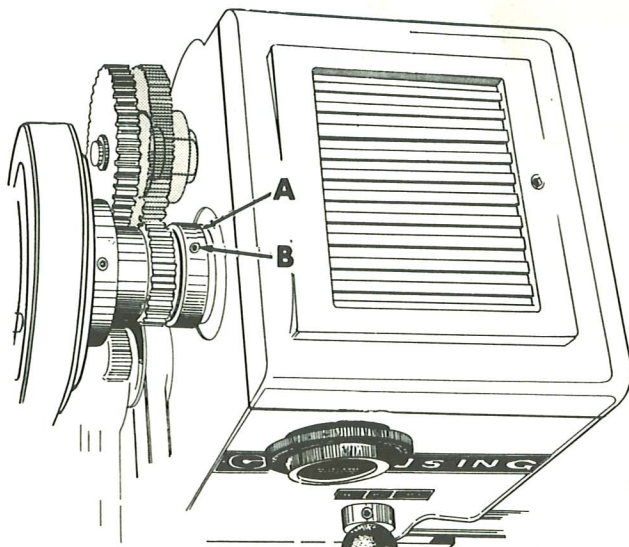

Figure 21
2. Loosen set screw (B) (fig. 21) in bearing adjusting nut (A) and tighten nut with spanner wrench until spindle end play has been removed.
3. Give chuck a sharp spin with your hand -- drive plate should rotate about one turn. If it doesn't, adjust nut (A) and recheck.
4. Tighten set screw (B) in adjusting nut.